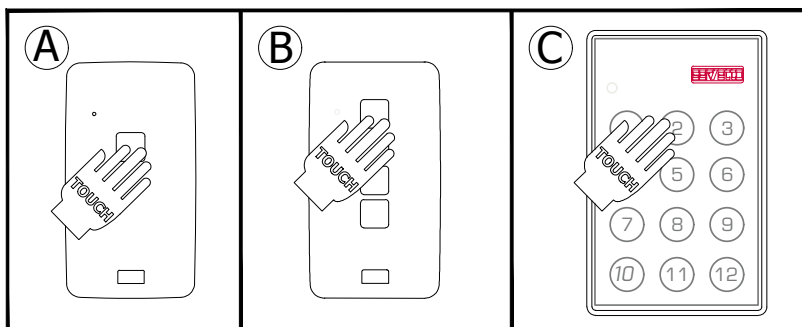

Fig. 23
- 2 - Press the desired button on the remote control (Fig. 23) and it will "BEEP" again.